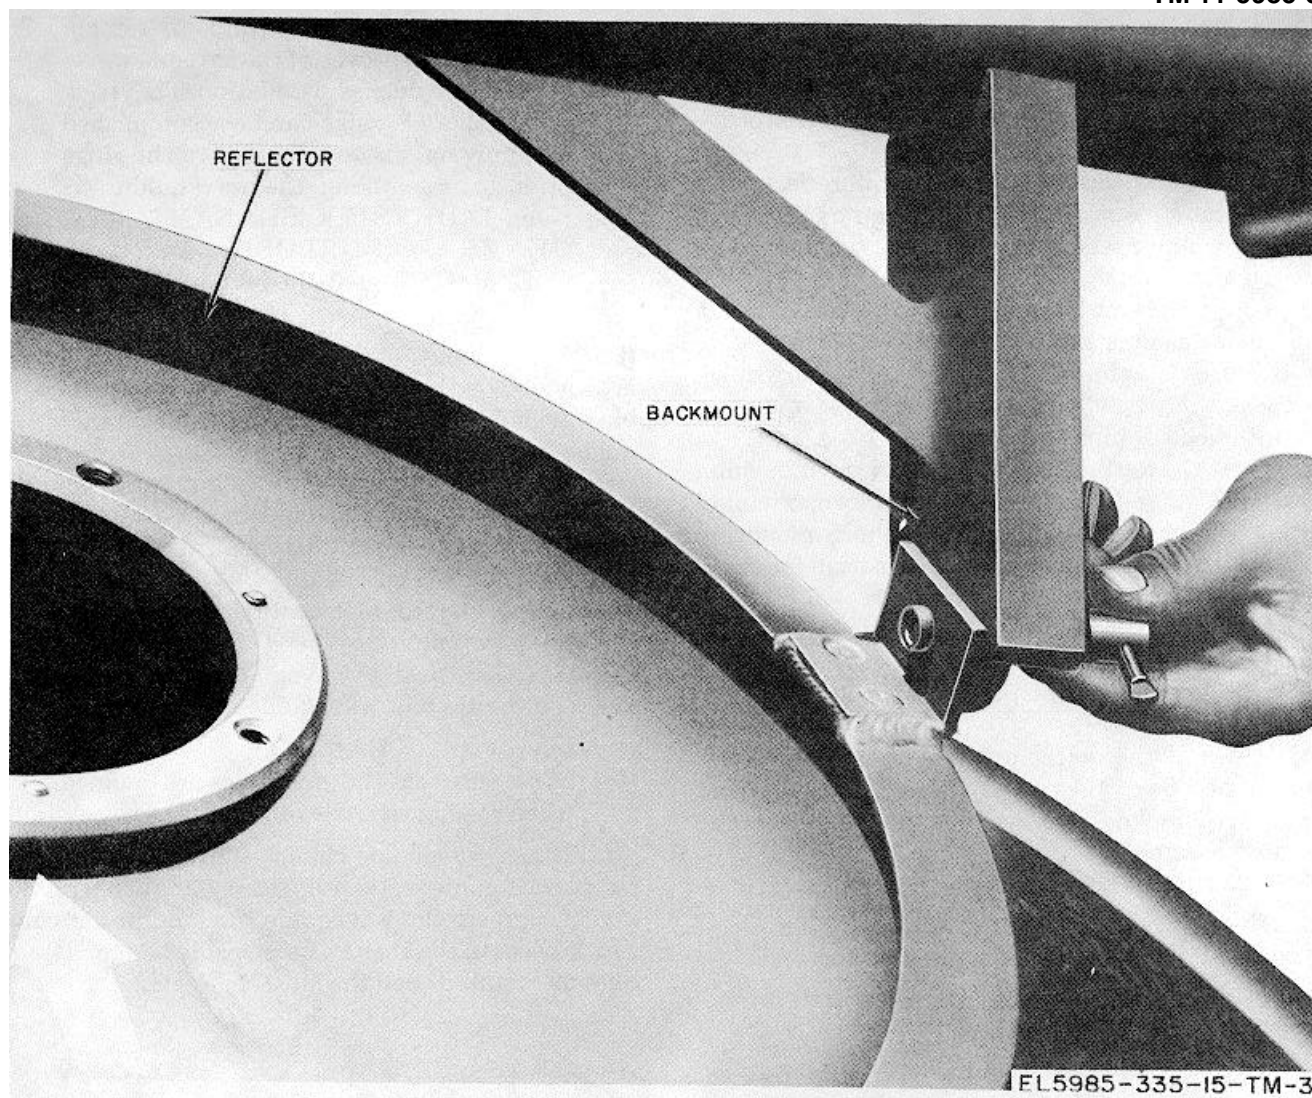

Figure 2-3. Attaching antenna backmount.
- b. Attach the antenna backmount to the antenna reflector with the pins provided in the reflector assembly as illustrated in figure 2-3.